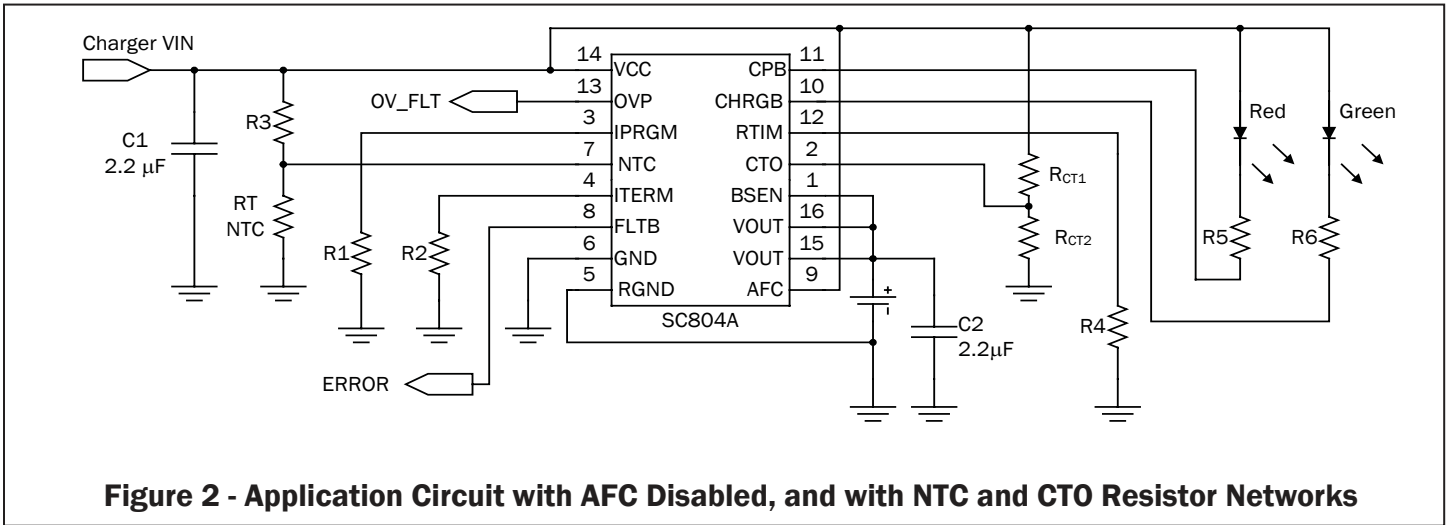

Figure 2 - Application Circuit with AFC Disabled, and with NTC and CTO Resistor Networks
This feature is especially useful if a single PCB design is needed to satisfy similar applications with different requirements. The temperature range for normal charging can be adjusted by adjusting resistor values on a divider network without changing the NTC thermistor, which is often enclosed in the battery pack. An example of a typical application is shown in Figure 2.
The following example assumes the NTC network configuration of Figure 2, with a fixed resistor R3 connected between NTC and VCC, and a battery NTC thermistor RT connected between NTC and ground. The battery temperature range over which charging is permitted is 0°C through 40°C. The datasheet for the selected NTC thermistor indicates that  $R_T = 5.839k\Omega$  at 40°C, at  $R_T = 26.49k\Omega$  at 0°C, with a dissipation constant  $DC = 3mW$ . Designate  $R_{HOT} = 5.839k\Omega$  and  $R_{COLD} = 26.49k\Omega$ .
**Step 4:** *Configure CTO.* If  $NTC_{COLD}$  is sufficiently close to the default cold threshold ( $V_{NTCC} \times V_{VCC}$ ), then simply connect CTO to ground, disabling the CTO function, to complete the design. But in this example it is not, so the voltage on CTO must be set to  $0.6591 \times V_{VCC}$ . The simple resistive voltage divider network of Figure 2 can be used to obtain the desired CTO voltage.